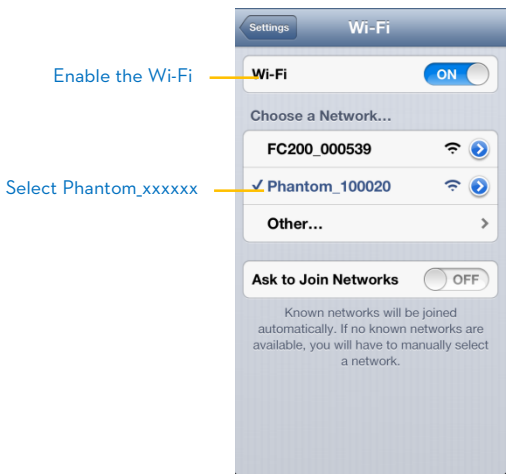

Fig.1
3. (Fig.1)Enable the Wi-Fi on your mobile device; wait for about 30 seconds, and then select the Phantom\_xxxxxx from the Wi-Fi network list.